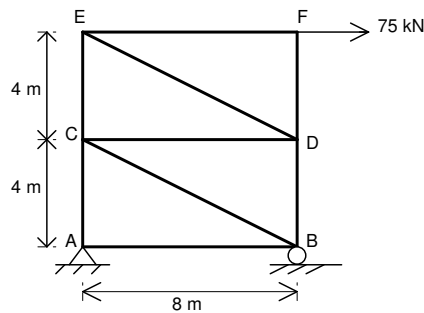

Fig. 2
b) Determine the forces in all the members of the frame shown in Fig. 2. Use method of joints. (4M+11M)